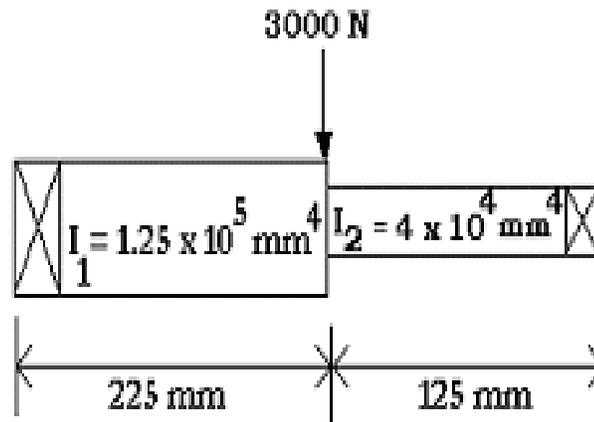

Figure 1:
3. Find the deflection at the load of the steel shaft as shown in figure 1: take  $E = 200$  Gpa [16]